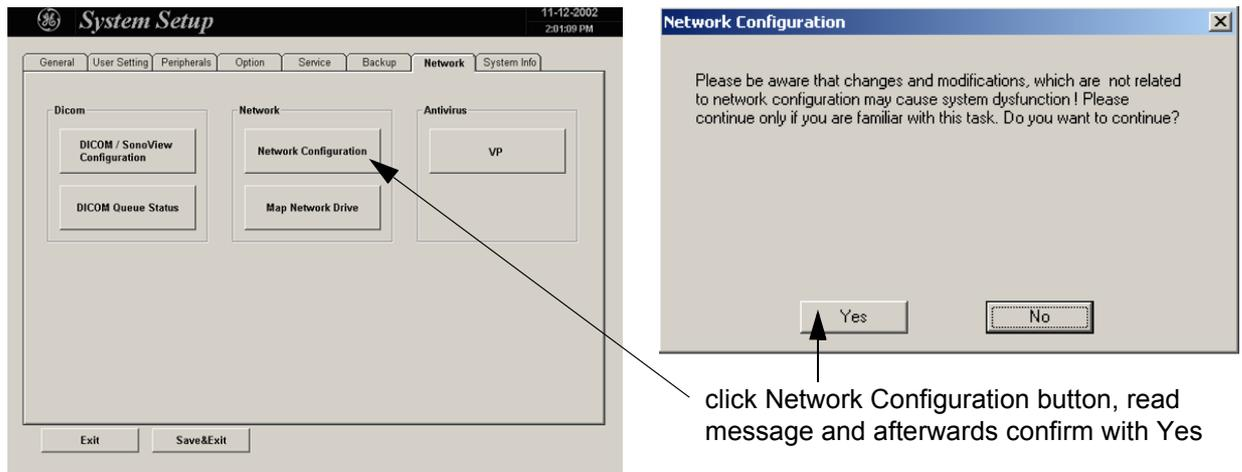

Figure 3-50 Network Configuration
- 1.) Select the MAP NETWORK DRIVE button (in the System Setup - **Network** page, see: Figure 3-50) to open a dialog where the system can be connected to a shared network drive of another server.